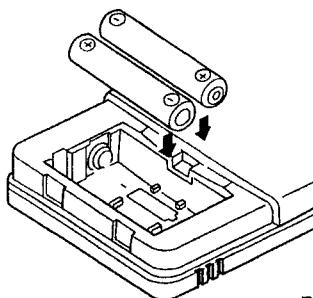

Fig. 8
2. Install batteries (AAA, R03, UM-4) as shown in Fig. 8.